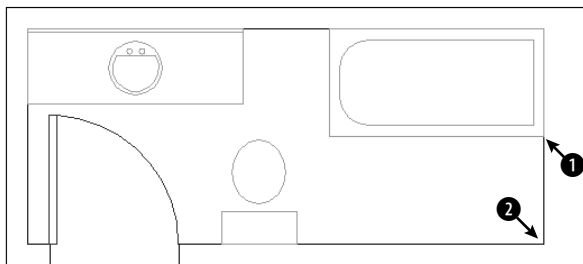

Figure 9-4: The bathroom plan.
Specify base point or [Displacement] <Displacement>: *Move the cursor to the Intersection at ❶ in Figure 9-4 and click.*
Specify second point of displacement or <use first point as displacement>: *Move the cursor to the Intersection at ❷ in Figure 9-4 and click.*